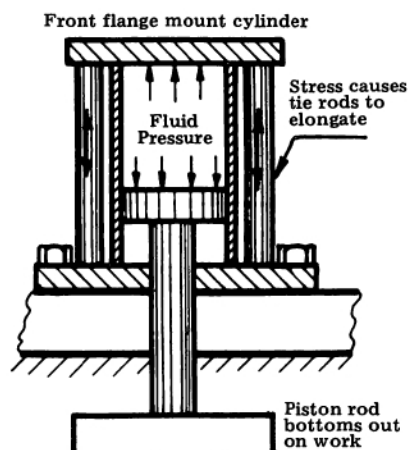

Figure 1. Tie rods elongate under fluid pressure on cylinders mounted in this manner.
The amount of stretch (elongation) in mechanical members under tension is very easy to calculate with a simple formula. The method described on this sheet can be applied to any structural member subjected to stress. In fluid power design, it can be applied to determine the elongation of cylinder tie rods when the cylinder is under fluid pressure and is mounted as in Figure 1, or when severe momentary shocks pass through hydraulic lines; it can be used to find the expected stretch in bolts holding a component to a manifold, holding SAE flange unions together, or holding a pipe flange to the body of a hydraulic component. It can be used to estimate whether the tie rods or barrel of a foot mounted cylinder may distort under pressure, binding the piston.
Collect the following data and you will be ready to make the calculation: (1), length of the stressed member, in inches; (2), cross sectional area of the stressed member, in square inches; (3), total applied force, in lbs., which is stretching the member; and (4), the modulus of elasticity, E, of the material from which the stressed member is constructed. This can be found from the table under Figure 1. For other materials, refer to a machine handbook. Since the modulus of elasticity is a ratio, it has no units.